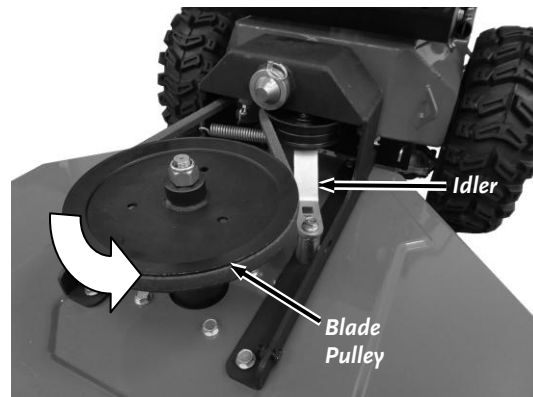

Figure 35
3. Insert the 1/2" Ratchet into the square in the Idler Arm (**Figure 35**). Turn the Ratchet clockwise to move the Pulley away from the Belt.
9. Start the Belt into the groove of the Blade Pulley and turn the Pulley as you guide the Belt around and into the Pulley groove (**Figure 35**).